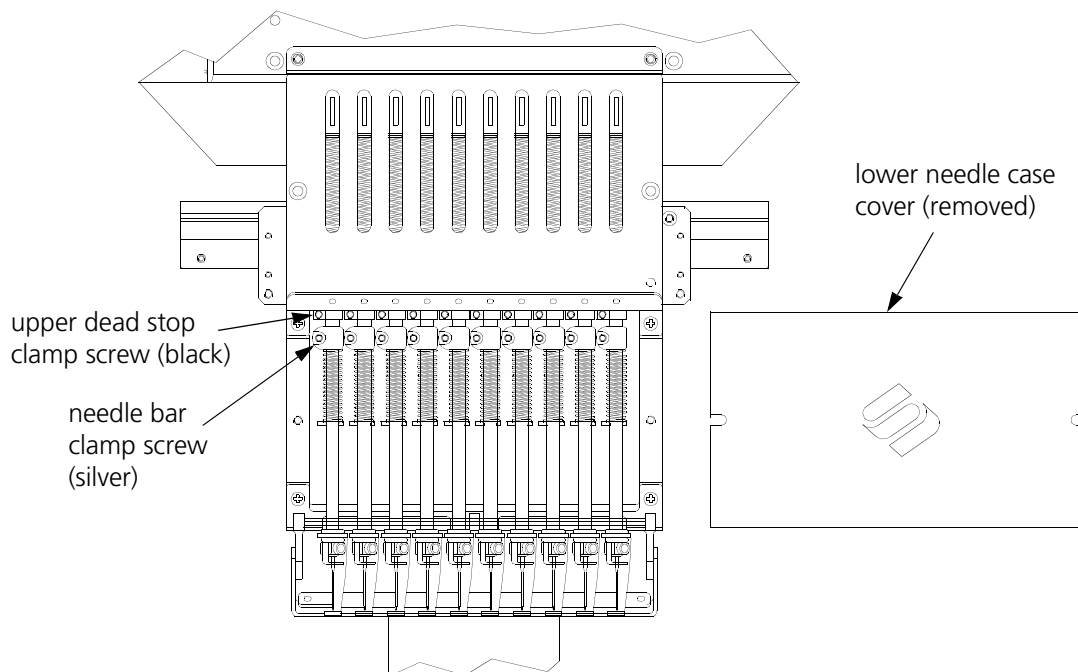

Figure 4-8
27. Remove the lower needle case cover (see Figure 4-8).
33. Loosen the needle bar clamp screw (silver clamp) shown in Figure 4-8.